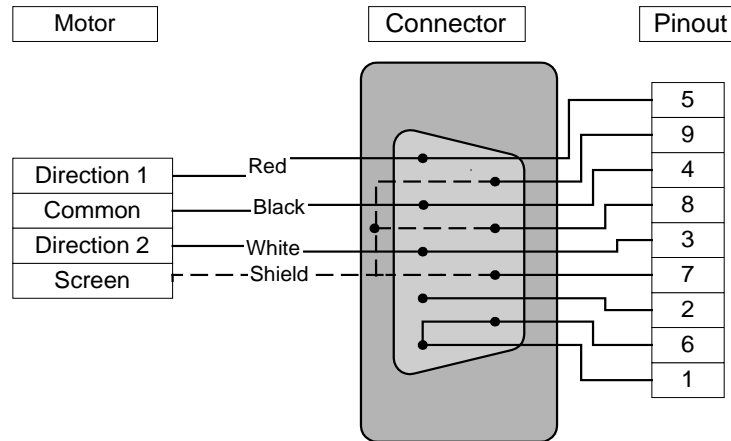

Figure 10: Standard Motor Connector
This section describes the motor connector pinout. Make sure the driver is set to operate with the HR motor series. The motor driver connection is a standard 9 contacts D-type female connector, see Figure 10:
- In case the user replaces the original standard motor connector with user's compatible connector, it is essential to short-circuit pins 1 and 6 for safety reasons, refer to Figure 10 and Table 4.